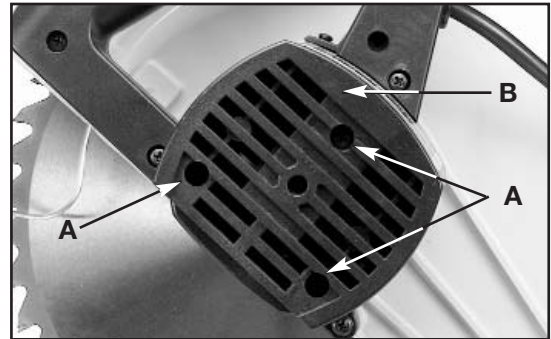

Fig. 41
1. Remove three screws (A) Fig. 41, and remove motor cover (B).